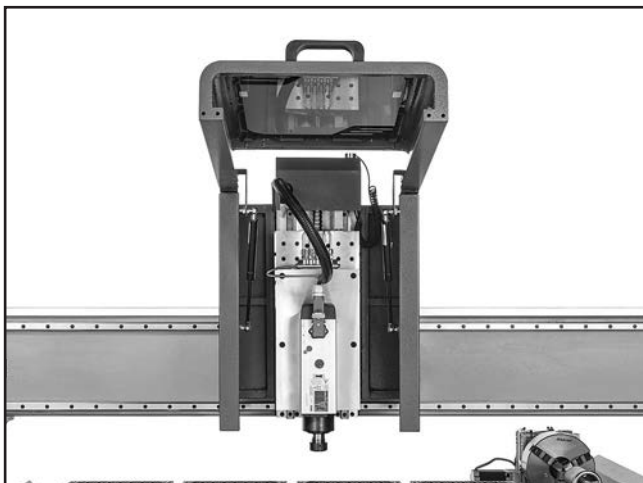

Figure 30. Dust shield access door opened.
1. Open dust shield access door (see **Figure 30**).